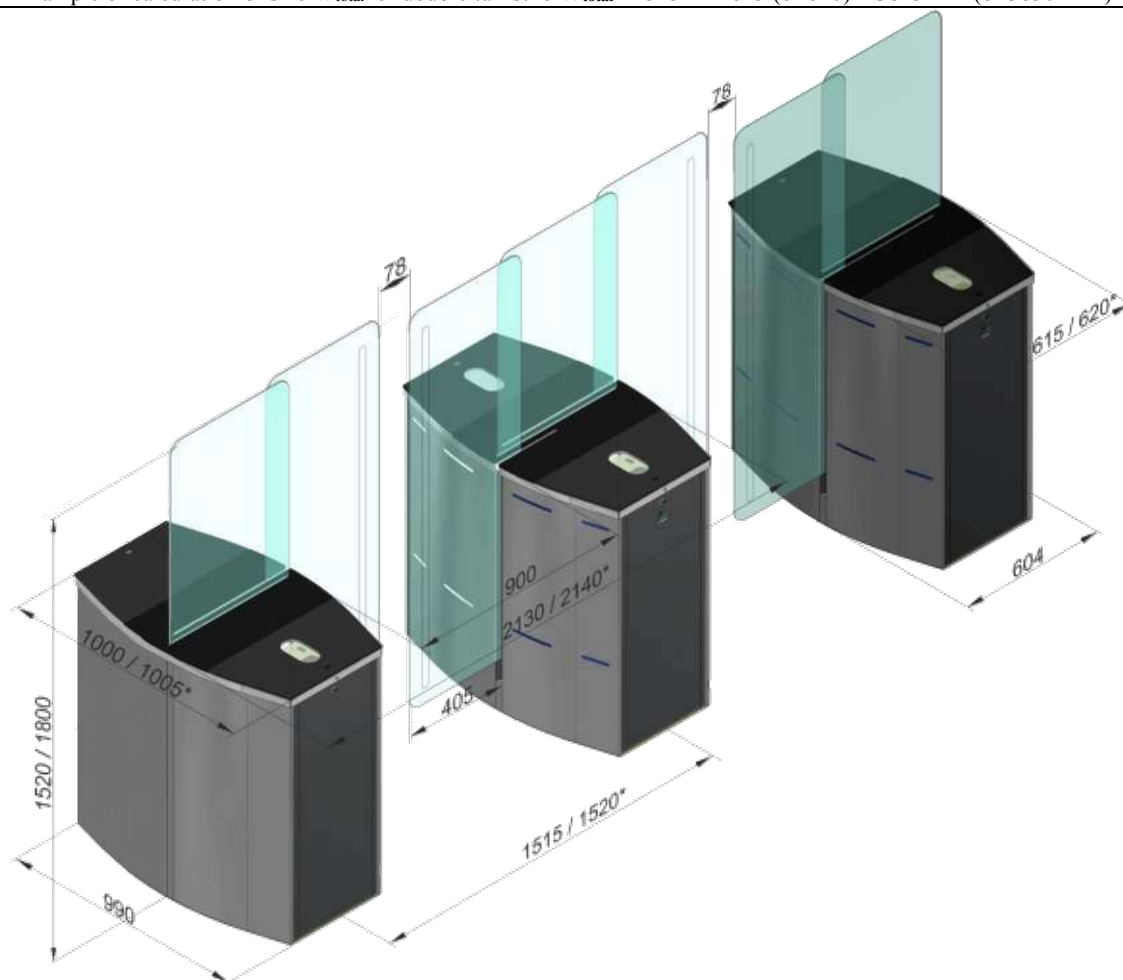

Fig. 2 – Dimensions of turnstile group
*dimension for turnstile with solid glass top When the turnstile with more than two access ways is ordered: (see.Fig.2): $W_{total} = 1515 \cdot s + b$ where s – number of “standard” 900 mm ; b - stainless steel lid 615 mm (620 mm glass top lid); Example of calculation of size W_{total} for double turnstile $W_{total} = 1515 \cdot 2 + 615$ (or 620) = 3645 mm (or 3650 mm)